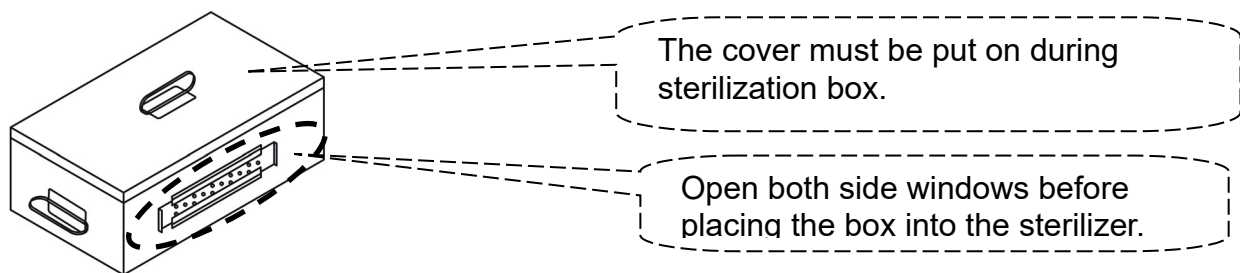

Figure 17
- D. Place the items to be sterilized and the sterilization indicator strips into the box as required. Remember to open both side windows before placing the box into the sterilizer as Figure 17.